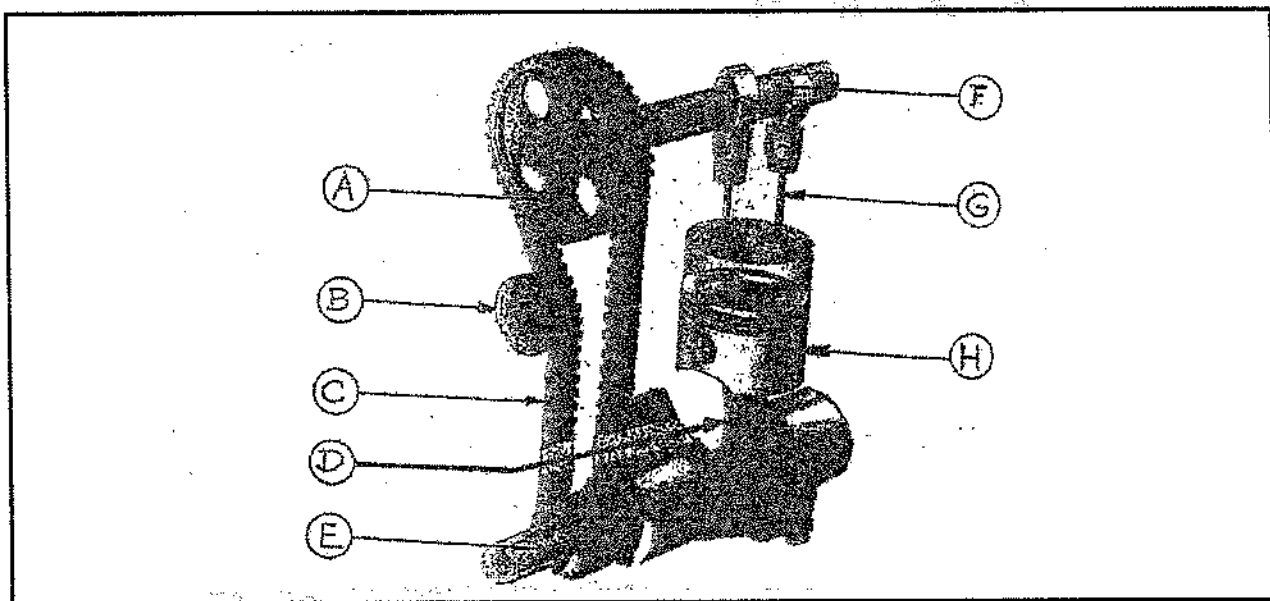

FIGURE 3
3.4 FIGURE 3 below shows the parts of an internal combustion engine.